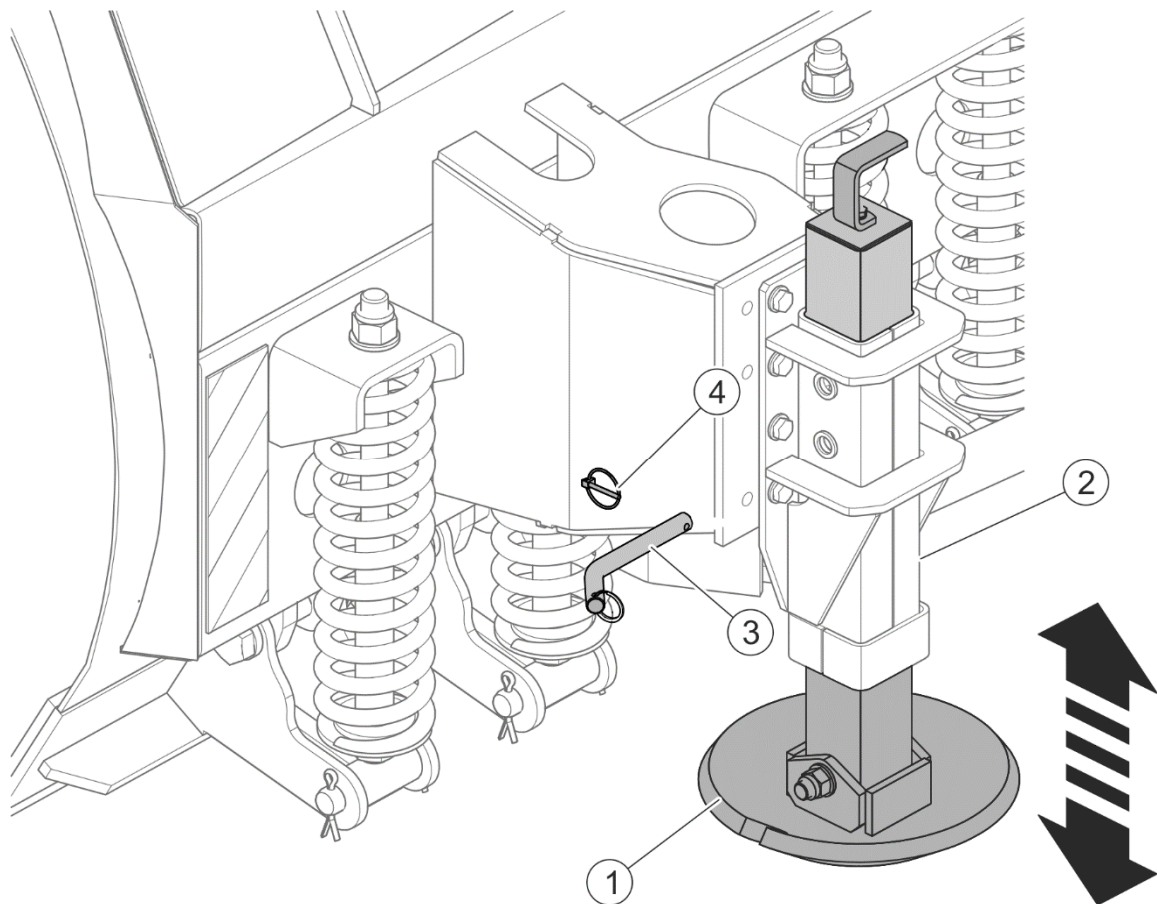

FIGURE 4.9 Working height adjustment in the snow ploughs equipped with slides
In the snow ploughs equipped with slides (FIGURE 4.9), the height adjustment is performed by unlocking pin (3) and proper sliding out or sliding in slide (1) mounted in guide (2). Location of the slide in the guide can be changed every 12 mm using one of the two openings in the guide. When the height is set, the slides must be secured with a pin (3) and securing cotter pin (4). Slides of the left and right blade should be put forward at the same height.